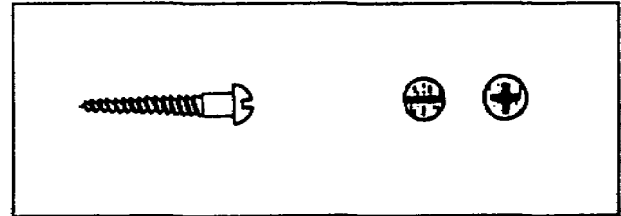

Figure 1-34. Roundhead screw
(1) Roundhead Screws. Roundhead screws (Figure 1-34) are usually used on a surface where the heads will show. The head is not countersunk, and for this reason it should have a pleasing finish-either blued or polished. If slotted-head, the screw slot should always be left in a parallel position to the grain of the wood.